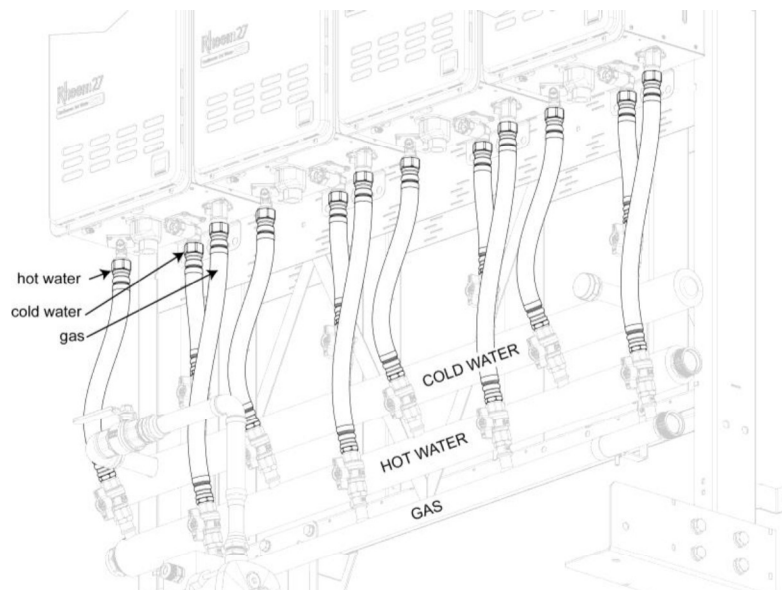

Figure 14
16. Reinstall the water and gas manifolds paying attention to their location. Refer to **Figure 14**.